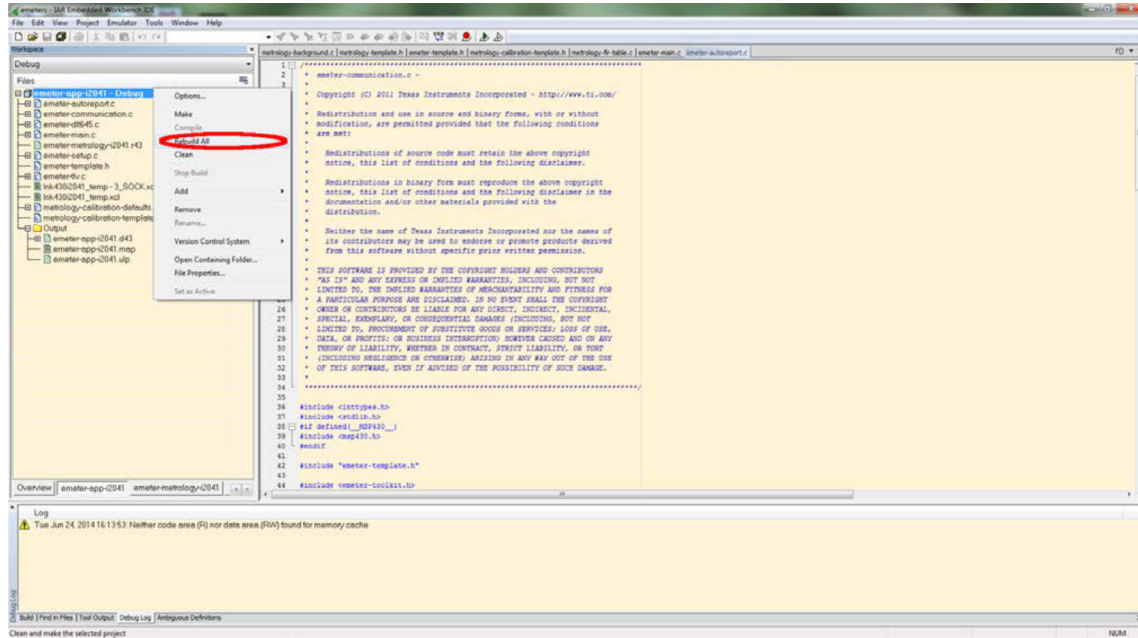

Figure 28. Compiling the Application
- Rebuild the project by right clicking on the project and selecting Rebuild All from the pop-up menu (see Figure 28). Three warnings are reported during rebuilding (see Figure 28), it is safe to ignore the three warnings. To open the project workspace, modify the code, compile, and download the code; IAR Embedded Workbench® 5.5 must be installed with a valid license. If a valid license is not available, the object code can still be downloaded. For downloading procedures, see Section A.3.